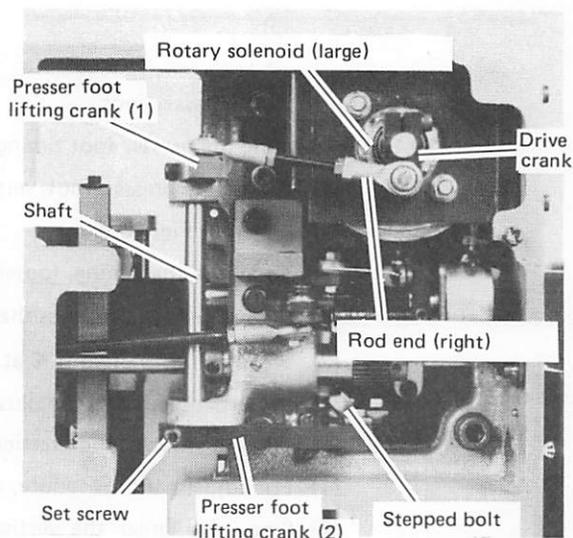
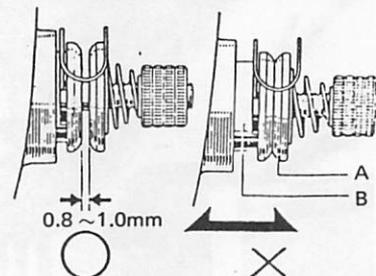

Fig. 10.11
Fig. 10.17
(2) Adjusting the lift of presser foot at stitching stop
- b. Lean the machine head and loosen the set screw of presser foot lifting crank (2).
With the lifting crank (1) set in the shaft, set the drive crank so that it is parallel to the shaft, as shown in Fig. 10.11, when the rotary solenoid (large) is not energized.
- c. With the presser foot at its lowest position lightly press down the lifting crank (2) (pull forward in the case shown in Fig. 10.11) by hand until it stops.
- (1) If thread release is not properly adjusted, trimmed thread tail length becomes short and stitch may skip or needle thread may leave the needle at start of sewing.
- (2) If the tension discs do not close when the presser foot is lowered, needle thread tension becomes faint and thread tensions are unbalanced.
- (3) When the thread release is properly adjusted, gap ranging from 0.8 mm to 1.0 mm is developed when the tension discs open, as shown in Fig. 10.17.
- (4) The tension discs open when the presser foot rises (the work holder is at the home position while the power is ON, or FEED without stitching), or when threads are trimmed.
Fully turn the rotary solenoid (large) drive crank shown in Fig. 10.11 to lift the presser foot and adjust the position of the tension regulator casing (B) in the direction indicated by arrow in Fig. 10.17, so that the tension discs open 0.8 mm – 1.0 mm.
- (6) Adjusting the tension disc release (opening degree of tension disc when threads are trimmed)